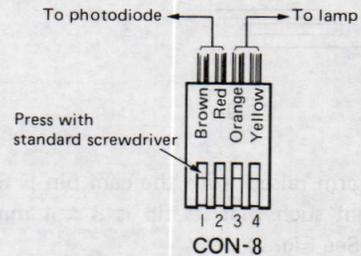

Fig. 5
- 2) Adjust the cam pin G (Fig. 5) so that the stylus lowers correctly in the lead in grooves along the periphery of record (a 12" disc) placed on the turntable when the START button is pressed. Also check 7" operation.